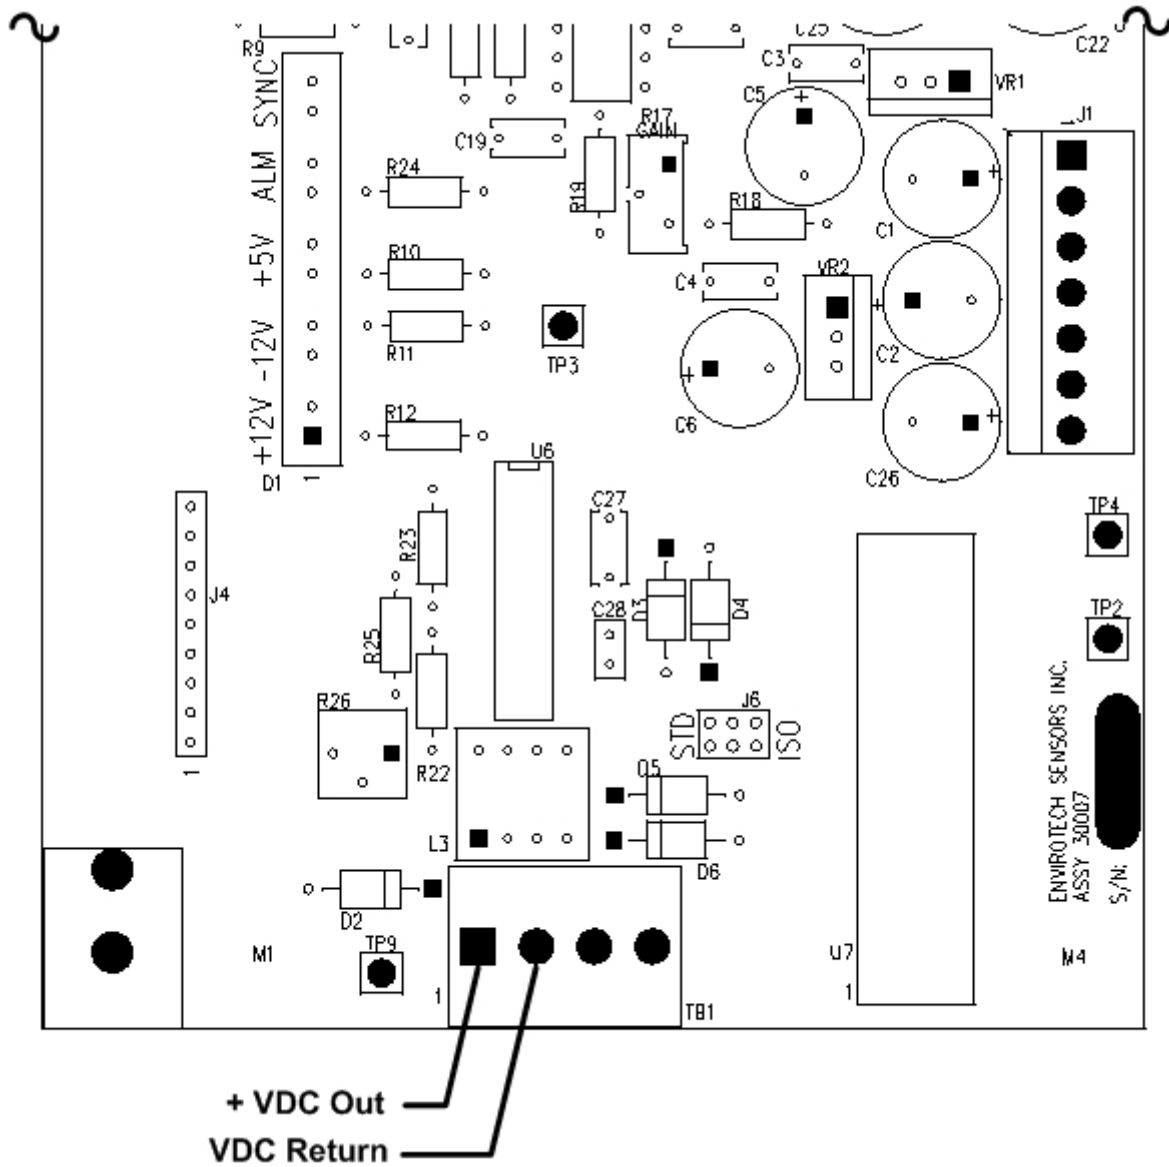

Figure 2.3.1-1 Analog Output Voltage Connections
4. Strip ~6 mm (1/4") of insulation from each of the two conductors and connect them to Pins 1 (+) and 2 (-) of TB1 as shown in Table 2.3.1-1 and Figure 2.3.1-1.